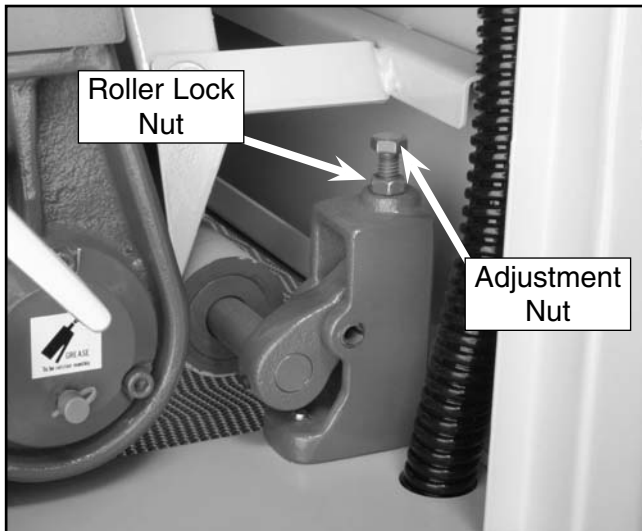

Figure 36. Pressure roller parts.
6. Loosen the roller lock nuts (**Figure 36**) on the infeed pressure roller. Turn the adjustment nuts (**Figure 36**) to lower the pressure roller until it just touches the board.